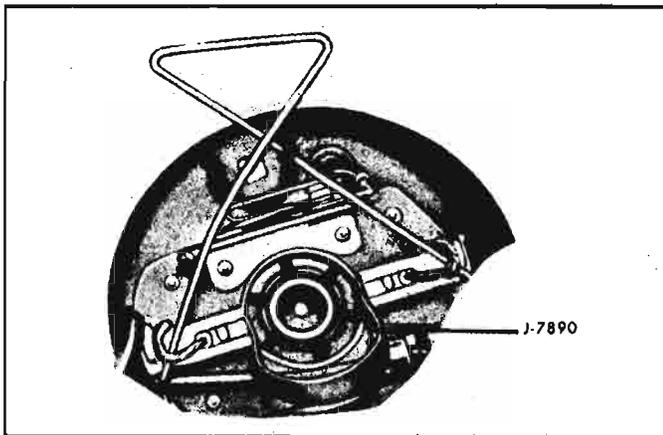

Fig. 8-149—Retaining Armature Brushes
4. Hold the brushes and brush springs in position as shown in Figure 8-149.